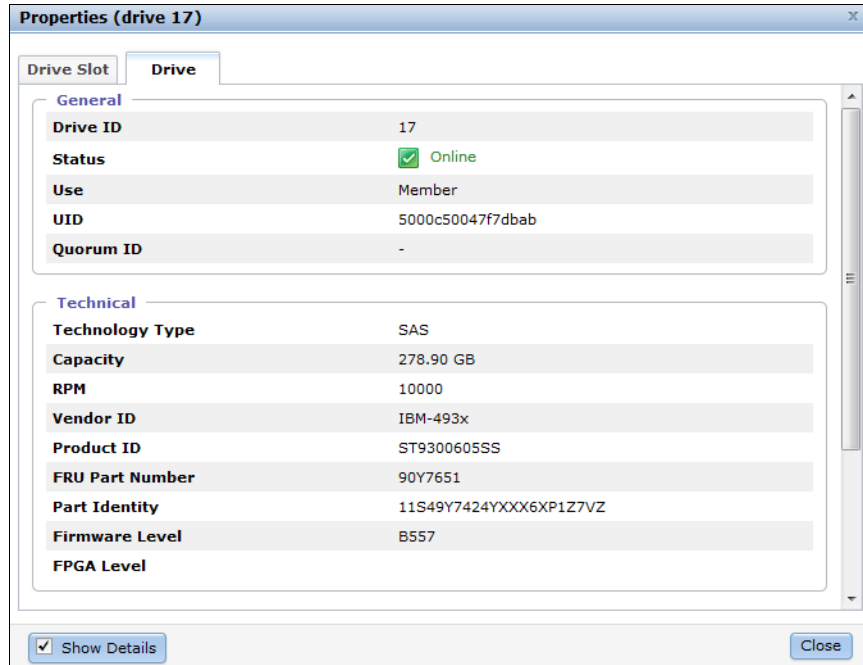

Figure 8-10 Properties tab with details
- ▶ If you select the **Show Details** check box, you can discover more detailed information, including vendor ID, FRU Part Number, and ID (Figure 8-10).